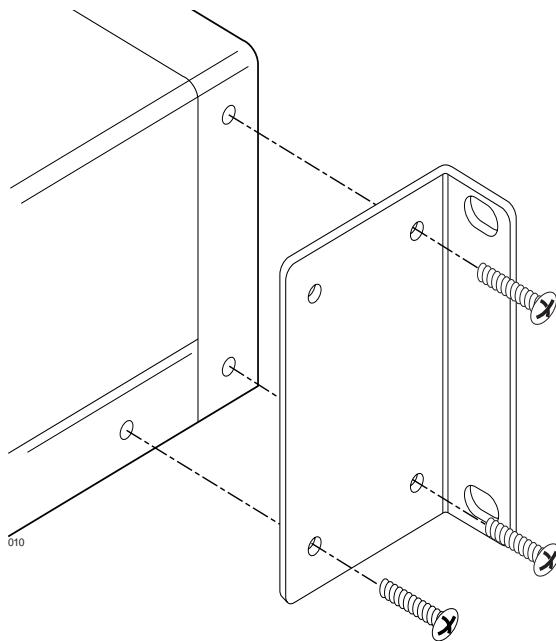
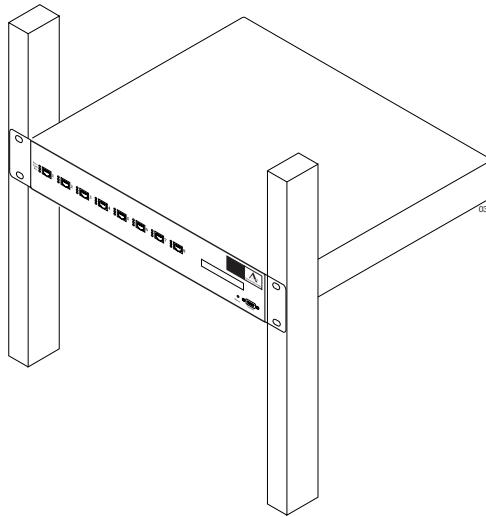

Figure 2-1 Position Mounting Brackets for Rack Mount
Figure 2-2 Rack Mounted ACEdirector 3
- To mount the unit into an equipment rack, connect the two mounting brackets to the switch using the supplied screws as shown in Figure 2-1, and install the switch as shown in Figure 2-2 using the appropriate screws for your rack-mount system (four 10-32, 12-24, M5X.8-6H, or M6X1-6H type screws).